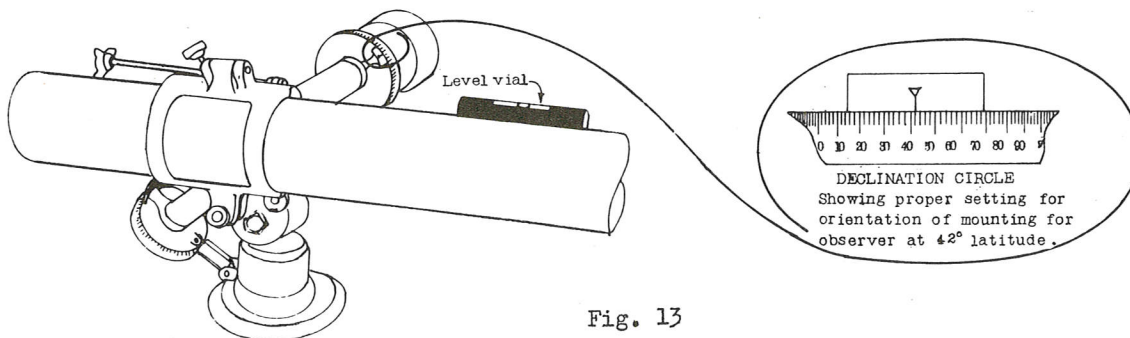

Fig. 13
- c) Without disturbing the position of the declination axis, loosen the declination locking rod (1-3) and set the refractor tube approximately horizontal. Place the level on the tube and, using the declination slow motion control (1-4) level the tube precisely. See Fig. 13.